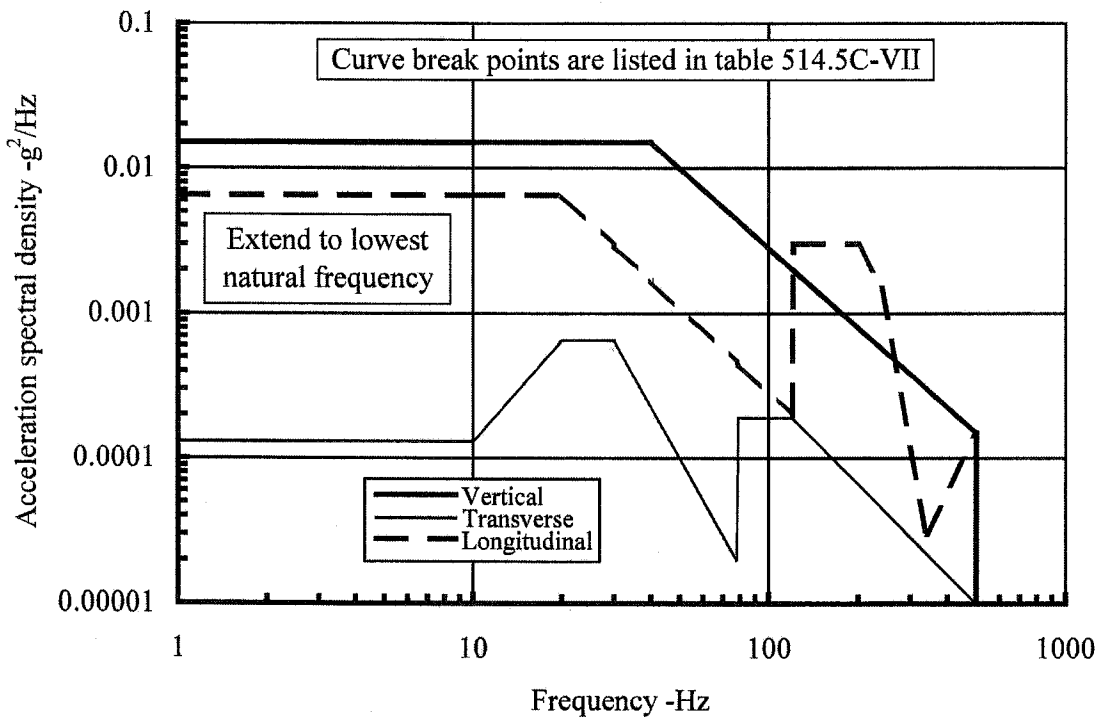

FIGURE 514.5C-1. U. S. highway truck vibration exposure.
Perform the random vibration profile simulating U.S. Highway truck vibration exposure found in figure 514.5C-1 in MIL-STD-810F. This profile is shown in the table below and in Figure 514.5C-1 on the following page. Note that the test will be run from 5 to 500 Hz because of shaker table limitations. Perform the test for 3 hours in each of three orthogonal axes.
U. S. highway truck vibration exposures figure 514.5C-1
Profile Name: MIL-STD-810F Fig. 514.5C-1 Long
Profile Name: MIL-STD-810F Fig. 514.5C-1 Transv